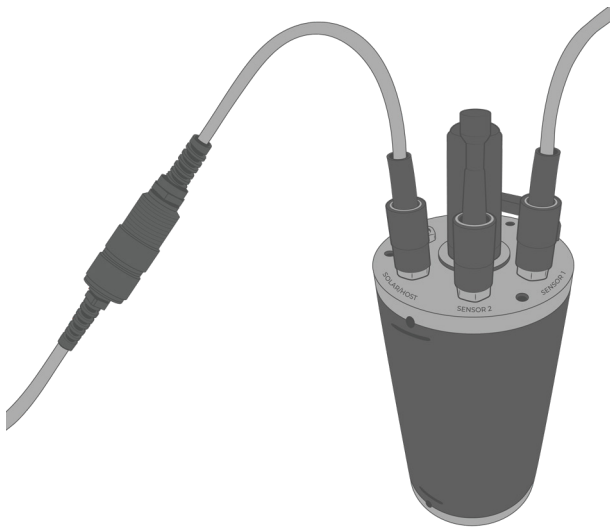

Figure 3: Example connection of UW6 plug cable to UW6R connector.
- a. If connecting an MCIL-6-MP connector with a UW6 receptacle, refer to figure 3 for connection to an included UW6 direct communication or charging cable.